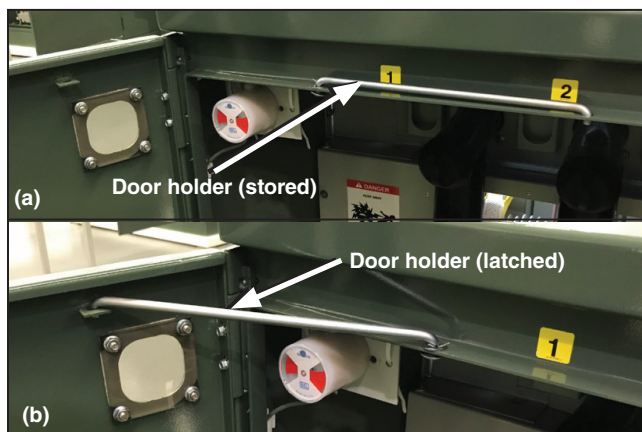

Figure 4. Using the door holder to hold the door open.
STEP 2. Pull the door open and secure it with the door holder. See Figure 4.